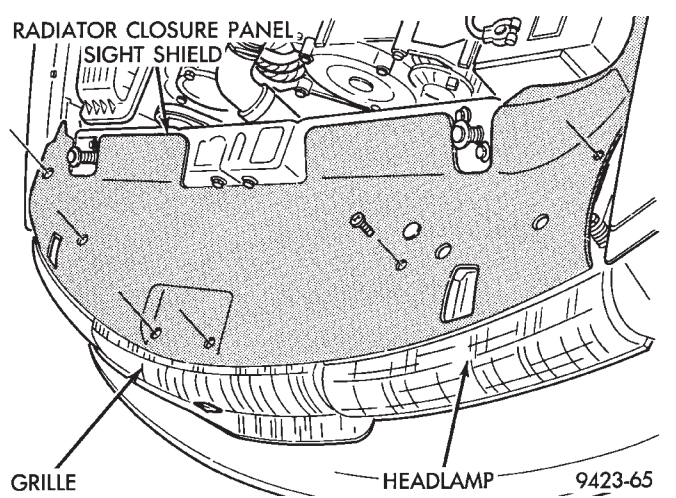

Fig. 2 Radiator Closure Panel Sight Shield
- (1) Release hood latch and open hood.
- (2) Remove screws holding sight shield to radiator closure panel (Fig. 2).
- (3) Remove screws holding sight shield to headlamp modules.
- (4) Remove screws holding sight shield to grille.
- (5) Separate sight shield from vehicle.